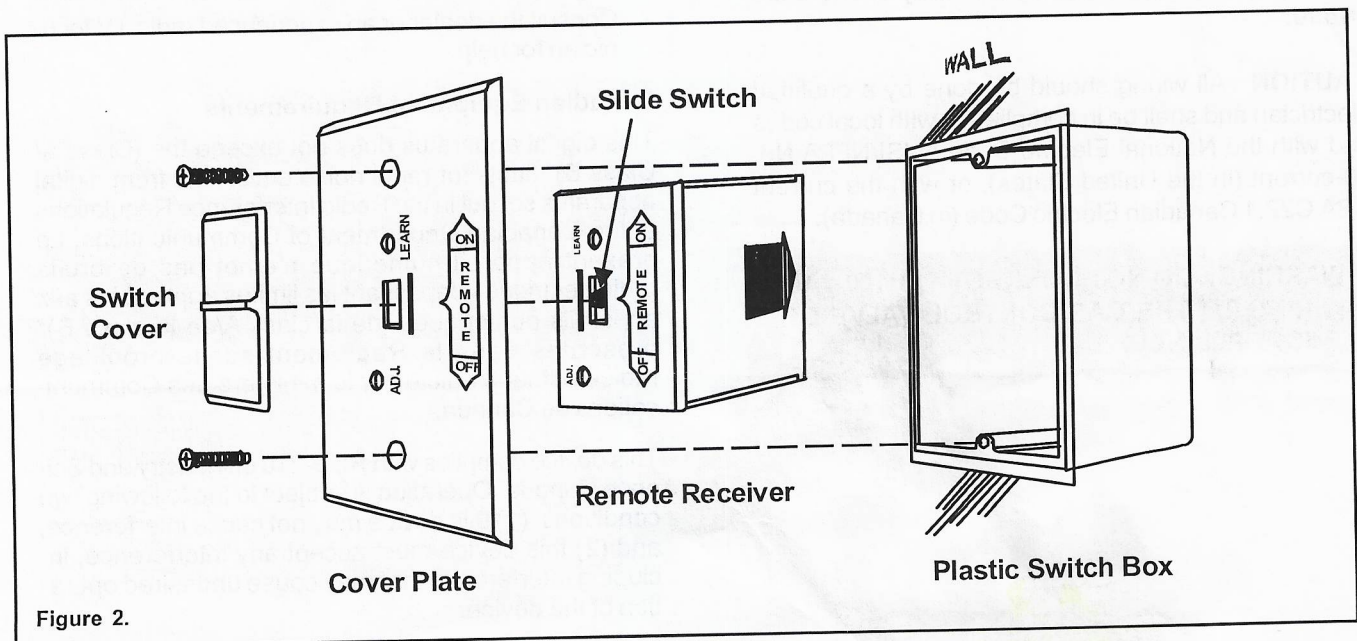

Figure 2.
4. Insert switch cover through the cover plate and snap it onto remote receiver slide switch (see Figure 2), **ONLY AFTER** making sure the remote receiver has **LEARNED** the transmitter's security code (see **MATCHING SECURITY CODES**).